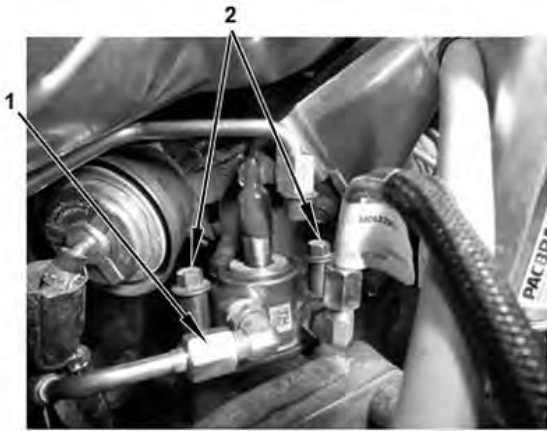

Figure 10 HCl Fuel Inlet
13. Remove HCl coolant outlet tube (1) (Figure 10).
2. HCl Bolts (2)
14. Remove two HCl bolts (2), and remove HCl from thermal management valve housing (Figure 10).